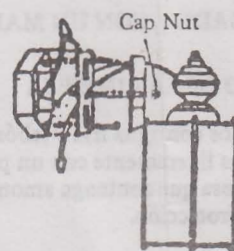

FIG.6
- b) Place fixture over nipple and secure with cap nut provided. (FIG. 6) Fixture canopy should be flush with surface.